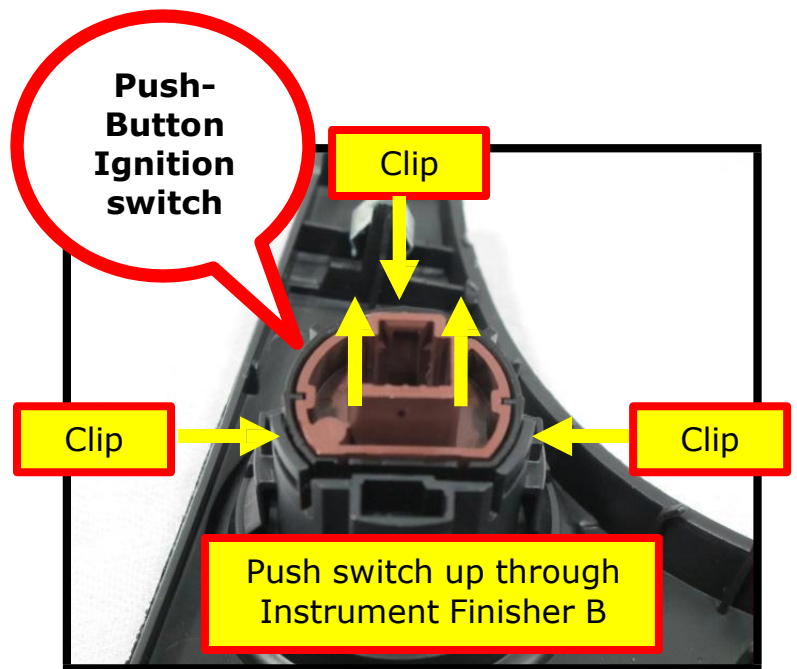

Figure 4
4. Remove Push-Button Ignition switch from Finisher B assembly as shown in Figure 4.